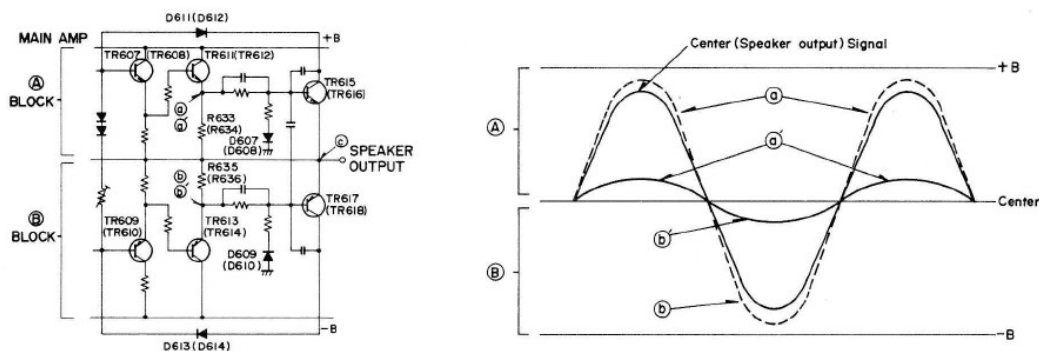

Figure 14
If speaker terminals are shorted, the output line (©line of Figure 14) is grounded and excessively high current flows from collector to emitter of TR611 (TR612) and TR613 (TR614), and a high voltage will appear across R633 (R634) and R635 (R636).
High current (input signal of TR607 [TR608] and TR609 [TR610]) flows from collector to emitter of TR615 (TR616) and TR617 (TR618) through D611 (D612) and D613 (D614), and collector to emitter current of TR611 (TR612) and TR613 (TR614) will drop as Figure 14 (from @to@', from ④ to ④') because of the output current limiting, and thus protect Power Transistors TR611 (TR612) and TR613 (TR614).